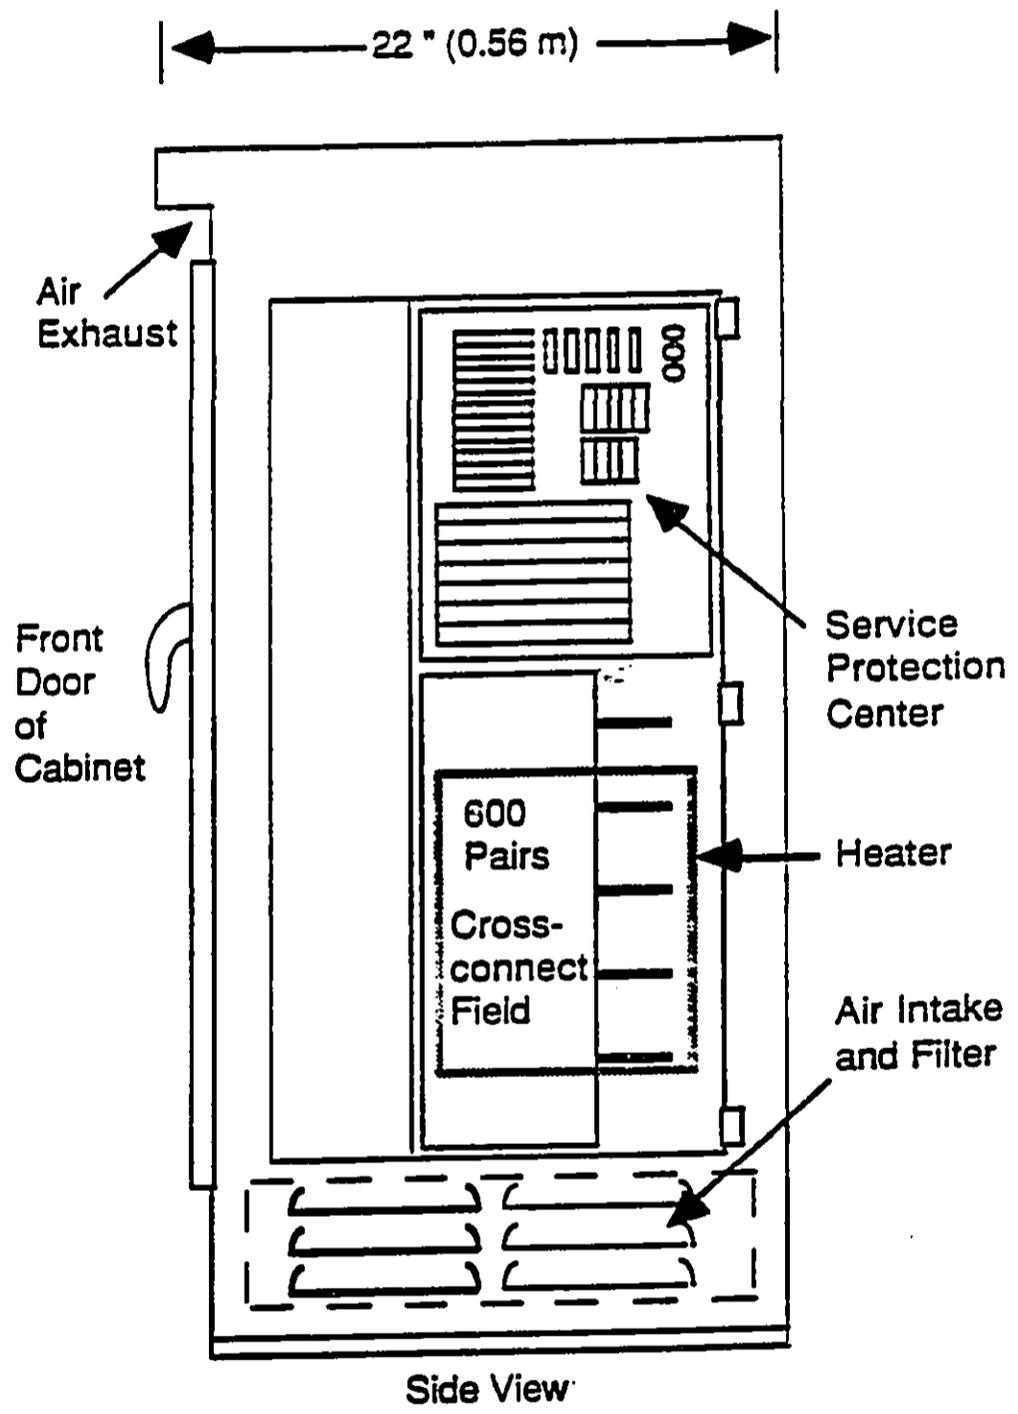

Fig. 1-4
**1.27** Outside plant cable protection and termination is provided on the Service Protection Center (SPC), which is located on the divider wall in the crossconnect compartment (see Fig. 1-4). The SPC is divided into two sections, the protection field and the termination field.